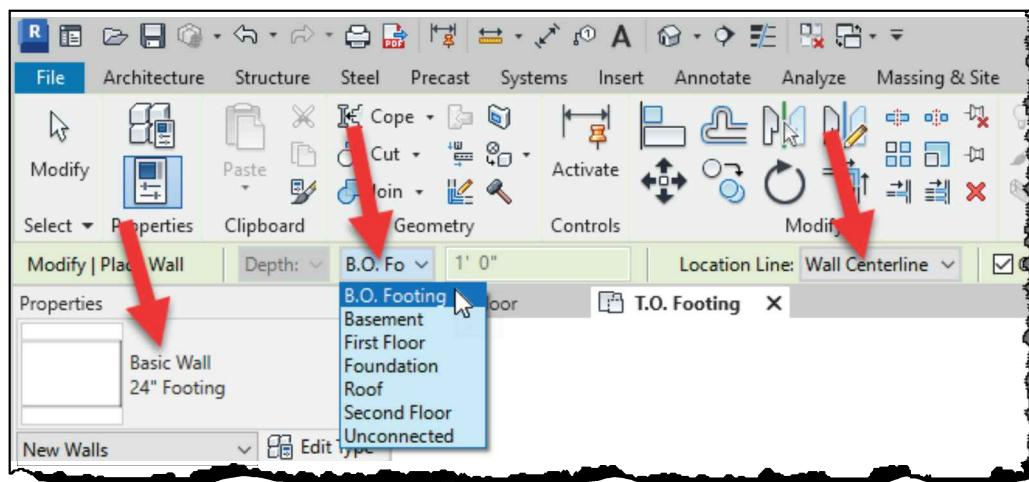

FIGURE 11-2.5 Foundation wall settings
10. Set the **Location Line** to **Wall Centerline** and make sure the **Depth** is set to **B.O. Footing** (B.O. means Bottom of Footing) on the **Options Bar** (Figure 11-2.5).